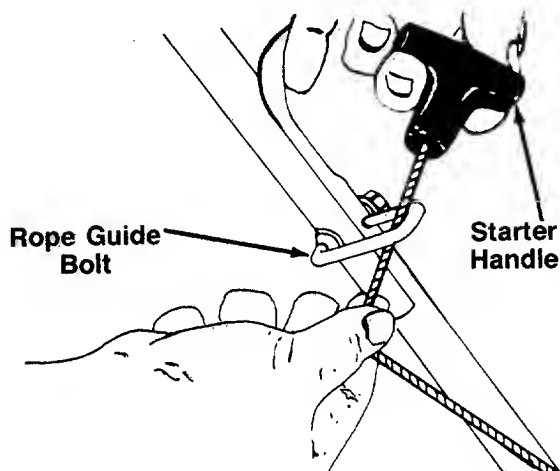

FIGURE 8.
3. Slip the starter rope into the rope guide bolt as shown in figure 8.